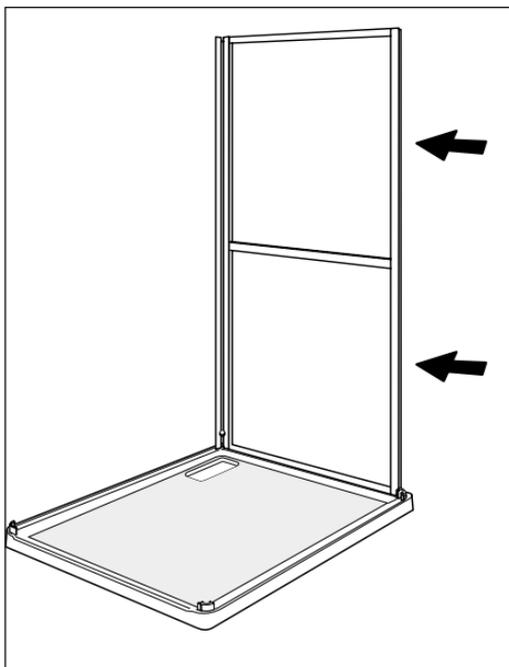

Fig 4.2
3. Fig 4.2-Locate the back panel (3) into the channel in the corner post.